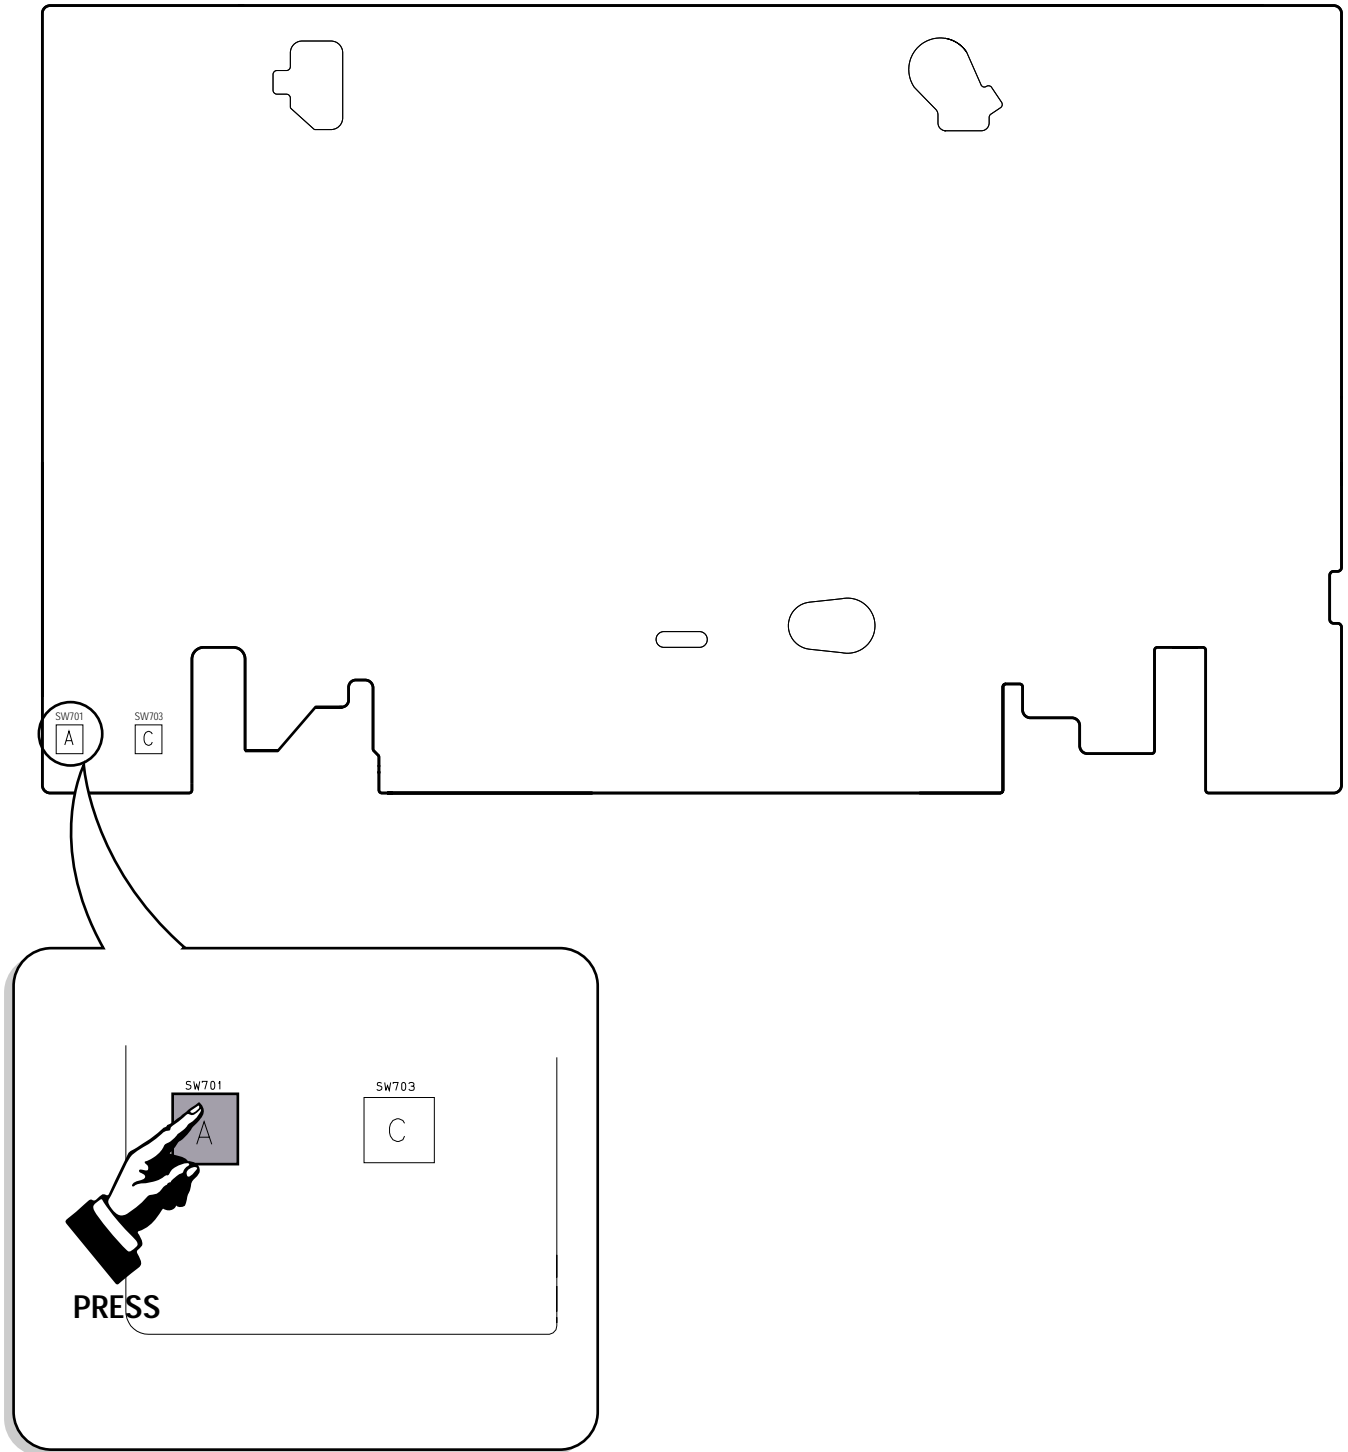

Fig. 5-2 Main PCB (Top View)
- 2) Press the "SW701" button on Main PCB with pincers to set the adjustment mode. (See Fig. 5-2)
- 1) Press the "SW701" button on Main PCB to set the adjustment mode. (See Fig. 5-2)